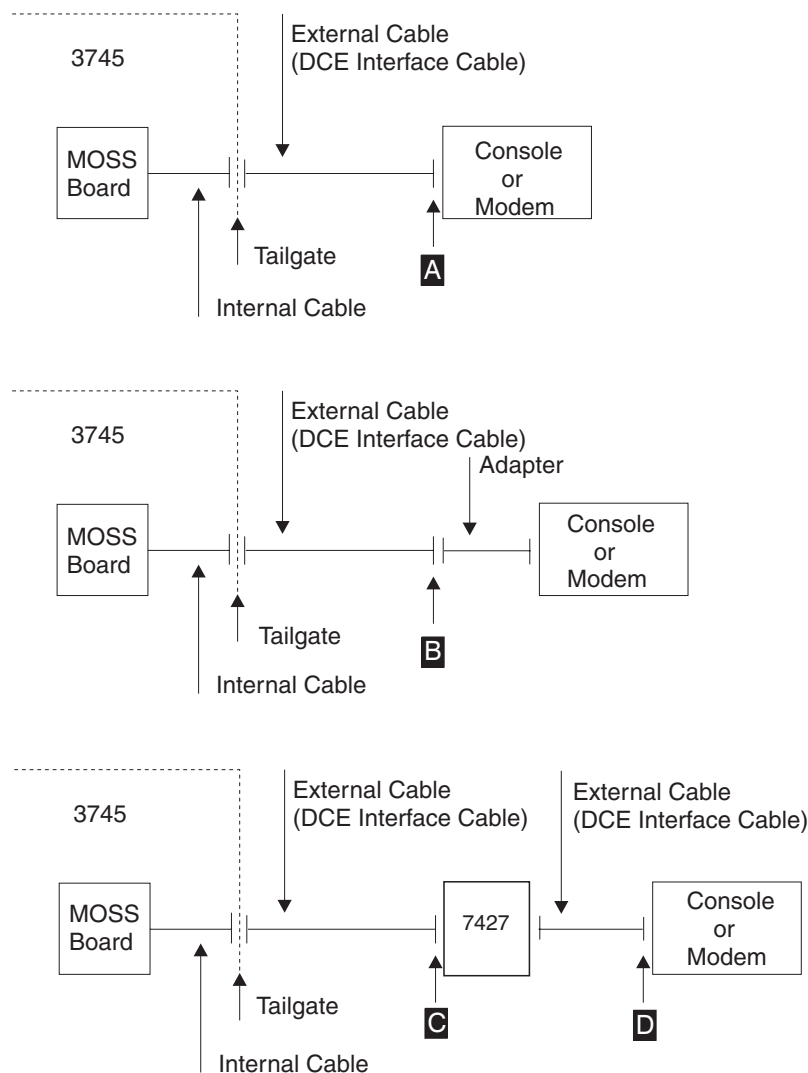

Figure 3-12. Cable Configurations
4. We advise you to start the **wrap plugging** from the far end of the DCE interface cable. Refer to Figure 3-12 on page 3-24 for the different cable configurations.
- a. DCE interface cable between the 3745 and the console/modem **without** an intermediate **adapter** (**A** in Figure 3-12).
- b. DCE interface cable between the 3745 and the console/modem **with** an intermediate **adapter** (**B** in Figure 3-12).
- c. DCE interface cable between the 3745 and the console switch (7427) (**C** in Figure 3-12).
- d. DCE interface cable between the console switch (7427) and the console/modem (**D** in Figure 3-12).